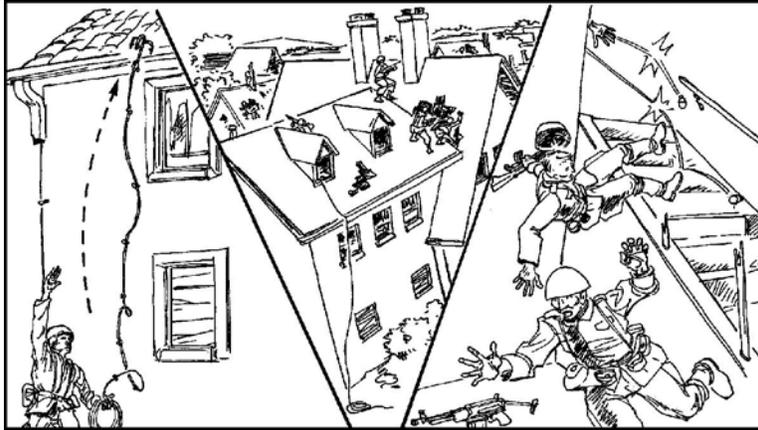

Figure 2. Fighting down stairs.
- (3) Fighting down the stairs is easier than fighting up the stairs (Figure 2).